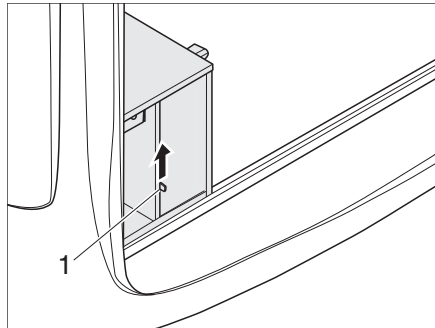

Fig. 73 Pull-out gas cooker latch
- ▶ Move the pull-out gas cooker latch upwards (Fig. 73,1).